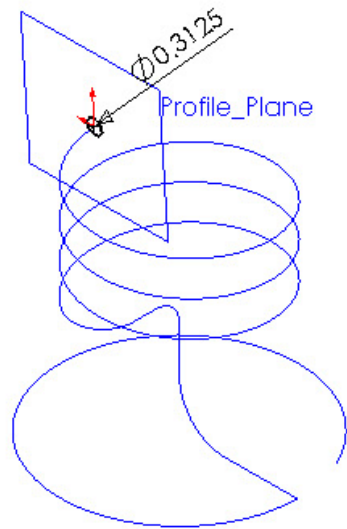

Figure 11 Profile Plane with profile sketch.
34. Select the **Profile_Plane**, open **Sketch**  and draw **Circle**  with diameter of **.3125 in.** on it. The circle will be used as the sweep profile, and is shown in Figure 11.